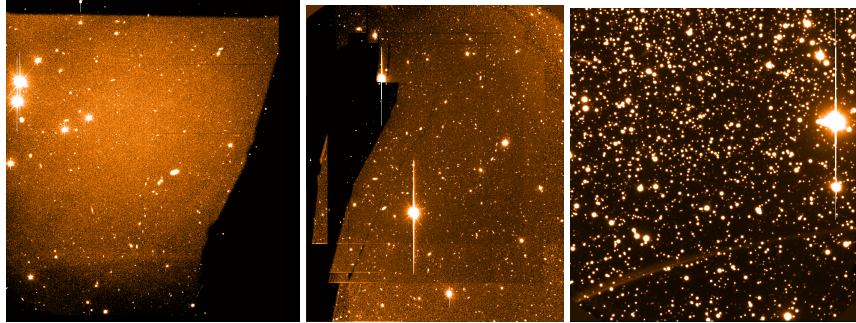

Figure 10.1: Examples of the effect that the VIMOS Imaging guide probe can have on various VIMOS images.
- **My VIMOS images (both RAW and processed) look odd, with large sections blacked-out. Is this normal?** Yes, and it is generally the result of vignetting due to the VIMOS guide probe entering the field-of-view of one of the detectors. This can be seen in both the raw and processed images (see Figure 10.1). Since the processed VIMOS Imaging frames (`JITTERED_IMAGE_SCI` are the product of combined, dithered images, the cumulative vignetting can result in some bizarre structures. Note that light can also reflect from the guide probe and cause positive streaks in the VIMOS images.